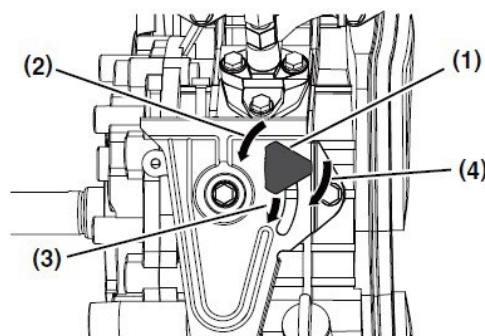

Figure 12
3. If your engine speed control is similar to **Figure 12**:
- (a) Turn the engine speed control knob (**Figure 12, (1)**) to the left (**Figure 12, (2)**).
- (b) Slide the engine speed control knob to the START position (**Figure 12, (3)**).
- (c) Turn the engine speed control knob to the right (**Figure 12, (4)**) to tighten it.